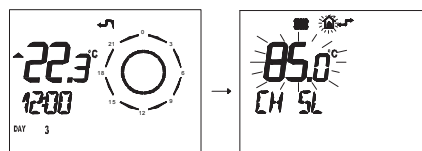

Fig. 8.18
- Press button  for more than 3 seconds to enter in **INFO** mode (Fig. 8.18).